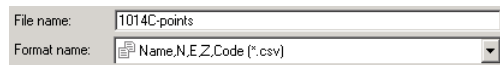

Figure D-36. Select the Coordinate File Format
1. Click **Save As** on the toolbar. Select the 'Name,N,E,Z,Code' format and enter the name of the created file '1014C.tlsv' (Figure D-36).